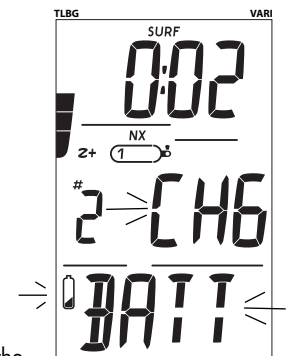

Fig. 2 - CHANGE BATTERY
- Battery icon with graphics CHG >> BATT displayed flashing upon entry into Surface Mode (Fig. 2), then after 5 seconds the unit shuts off until the battery is changed.